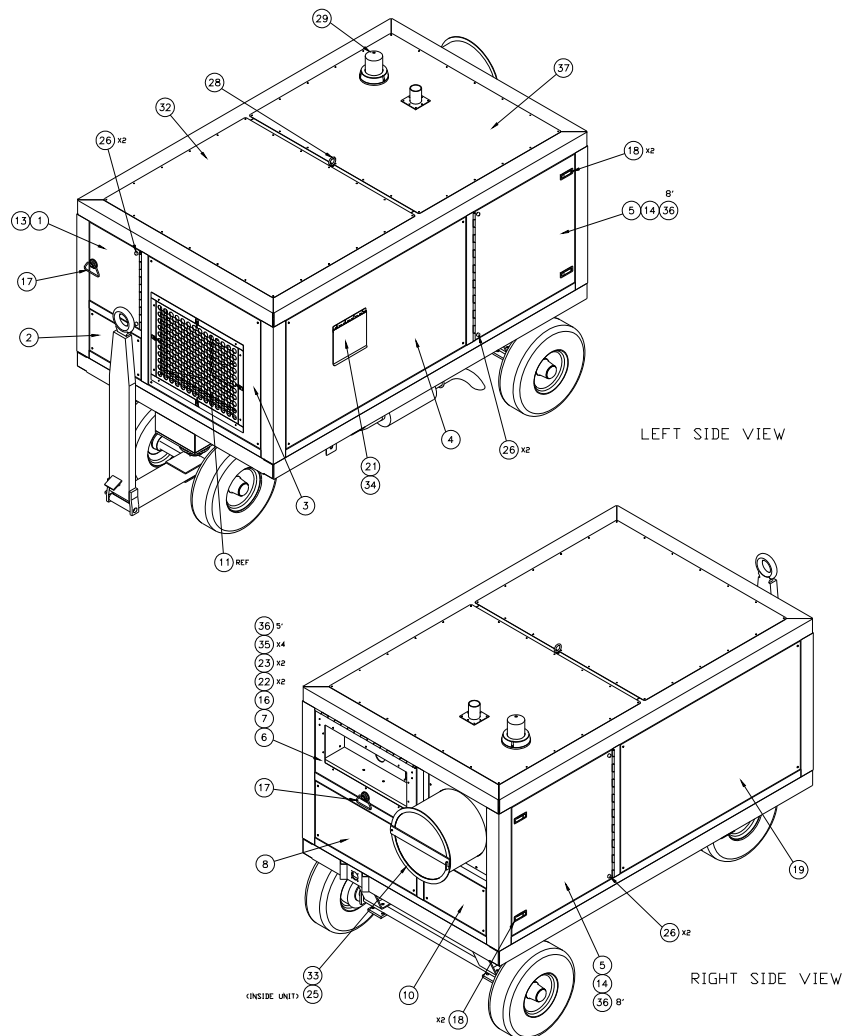

Figure 1. 5050D Doors and Panels. Ref. Section 4-3.
C. Body Frame Removal. (Reference Figure 1).